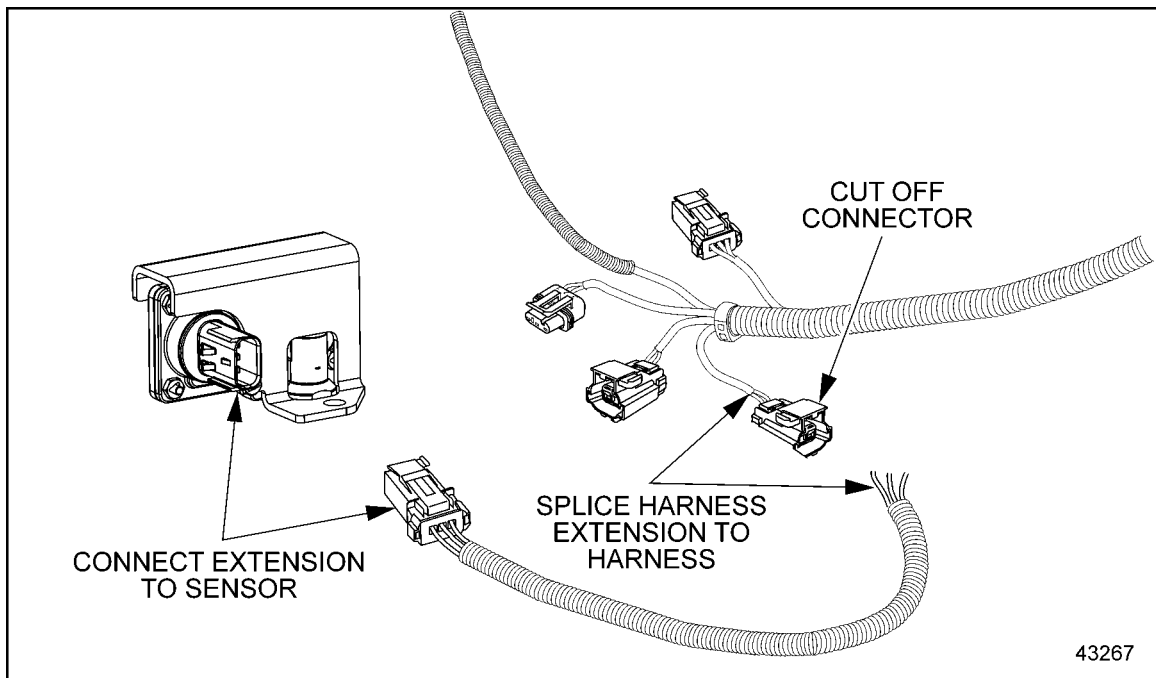

Figure 4. Splicing Connector Extension to Wiring Harness
7. Refer to Table 3 and splice the harness extension onto the engine sensor harness using the splices supplied. See Figure 4.